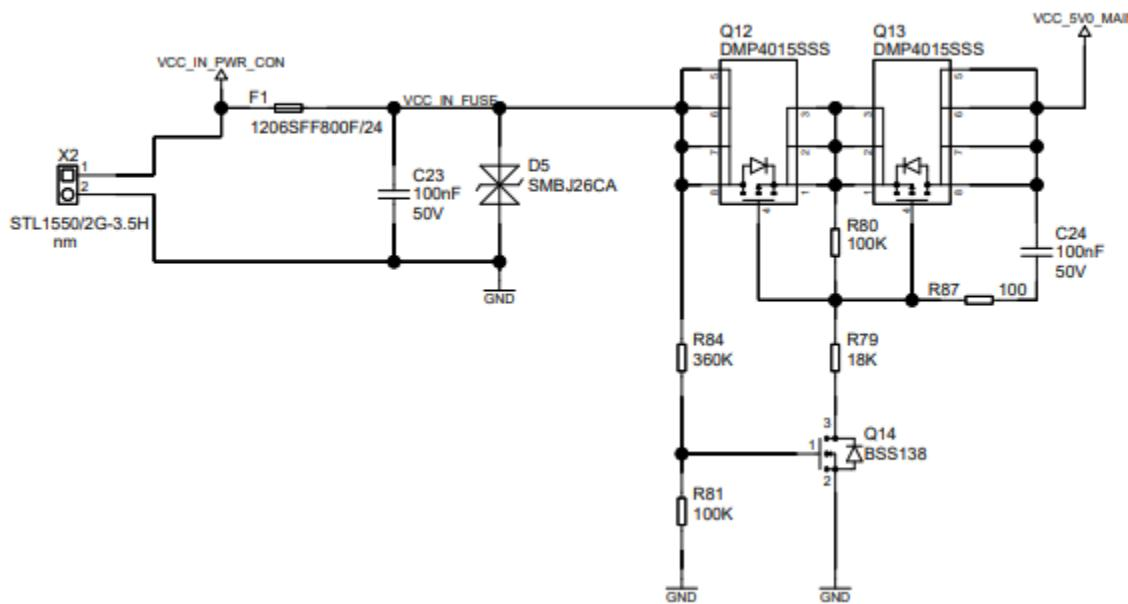

Figure 18. Phoenix connector power input with overload protection reference circuit
*Figure 18* is an alternative input power for industrial applications. It also contains a protection circuit that prevents overloads in current/voltage from damaging the SOM. It contains: